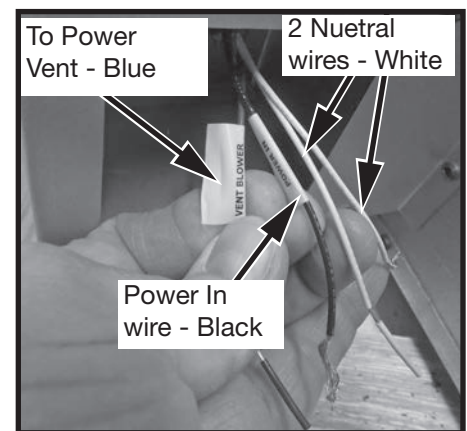
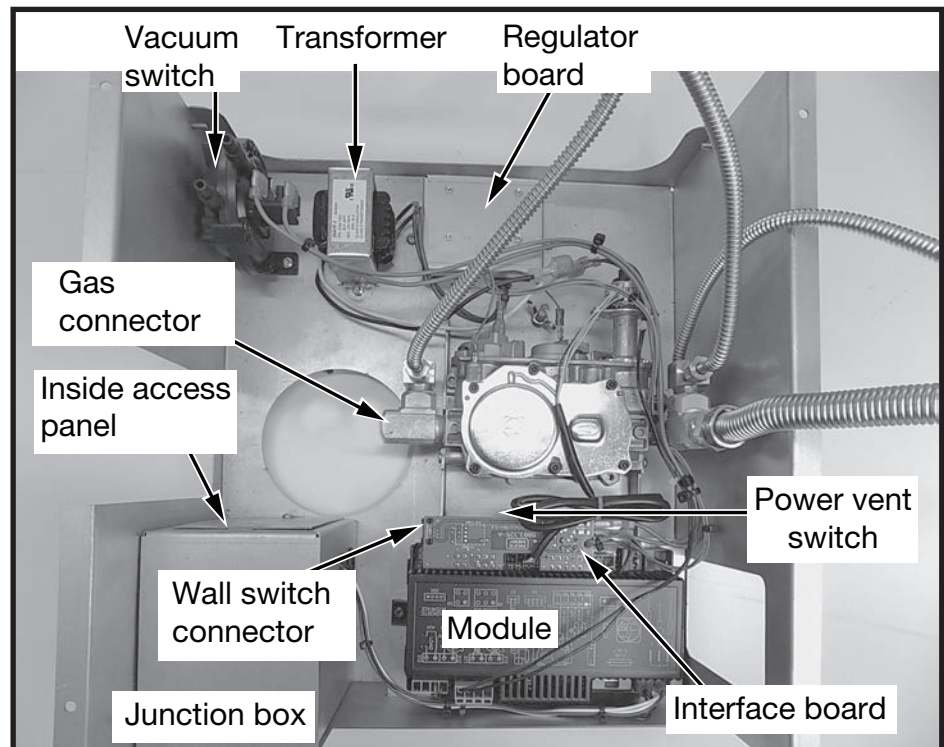
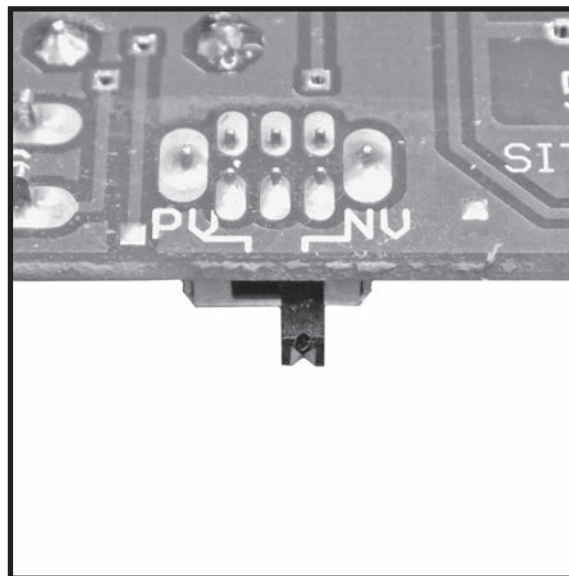

Figure 21: Junction box wiring.
Figure 22: Valve assembly components.
Figure 24: Vent mode selection switch.
4. Connect 110 V. AC electrical supply to the wires installed inside the junction box (Figure 21). The fireplace is rated at 110 volts, 60Hz, 0.25A. The optional power vent kit is rated at 115 volts, 60Hz, 1.8A.
The electrical wires can be accessed from both inside and outside the junction box by removing one of the two small access panels (Figure 21) & (Figure 22).
5. Connect the gas supply to the valve (Figure 22).
6. Attach one end of the wall switch control cable to the wall control. (not shown), and the other end to the interface board (Figure 22).
The NV / PV (Natural Vent / Power Vent) switch (Figure 24) on the interface board (Figure 22) is set according to which type of evacuating vent system is present. If the fireplace is vented without the assistance of a power vent, the switch should be set to “NV”. If using a power vent, “PV” should be selected.